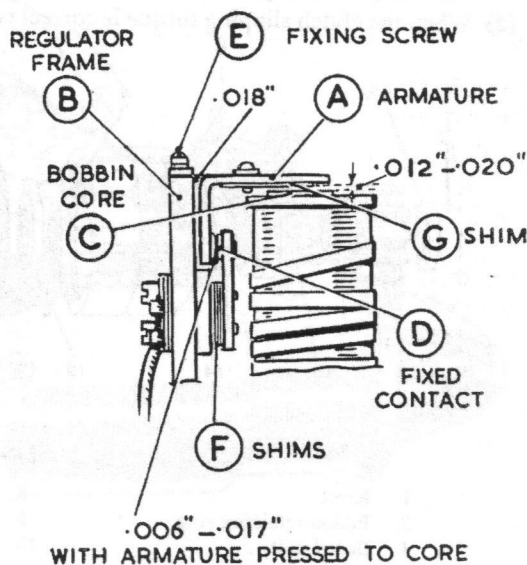

Fig. N.12
- (1) Slacken the two armature fixing screws (E) (Fig. N.12). Insert a .018 in. (.46 mm.) feeler gauge between the back of the armature (A) and the regulator frame.
- (2) Press back the armature against the regulator frame and down onto the top of the bobbin core with the gauge in position and lock the armature by tightening the two fixing screws.
- (3) Check the gap between the under side of the shim (G) and the top of the bobbin core. This must be .012 to .020 in. (.30 to .51 mm.). If the gap is outside these limits correct by adding or removing shims (F) (Fig. N.12) at the back of the fixed contact (D).
- (4) Remove the gauge and press the armature down, when the gap between the contacts should be between .006 in. (.15 mm.) and .017 in. (.43 mm.).